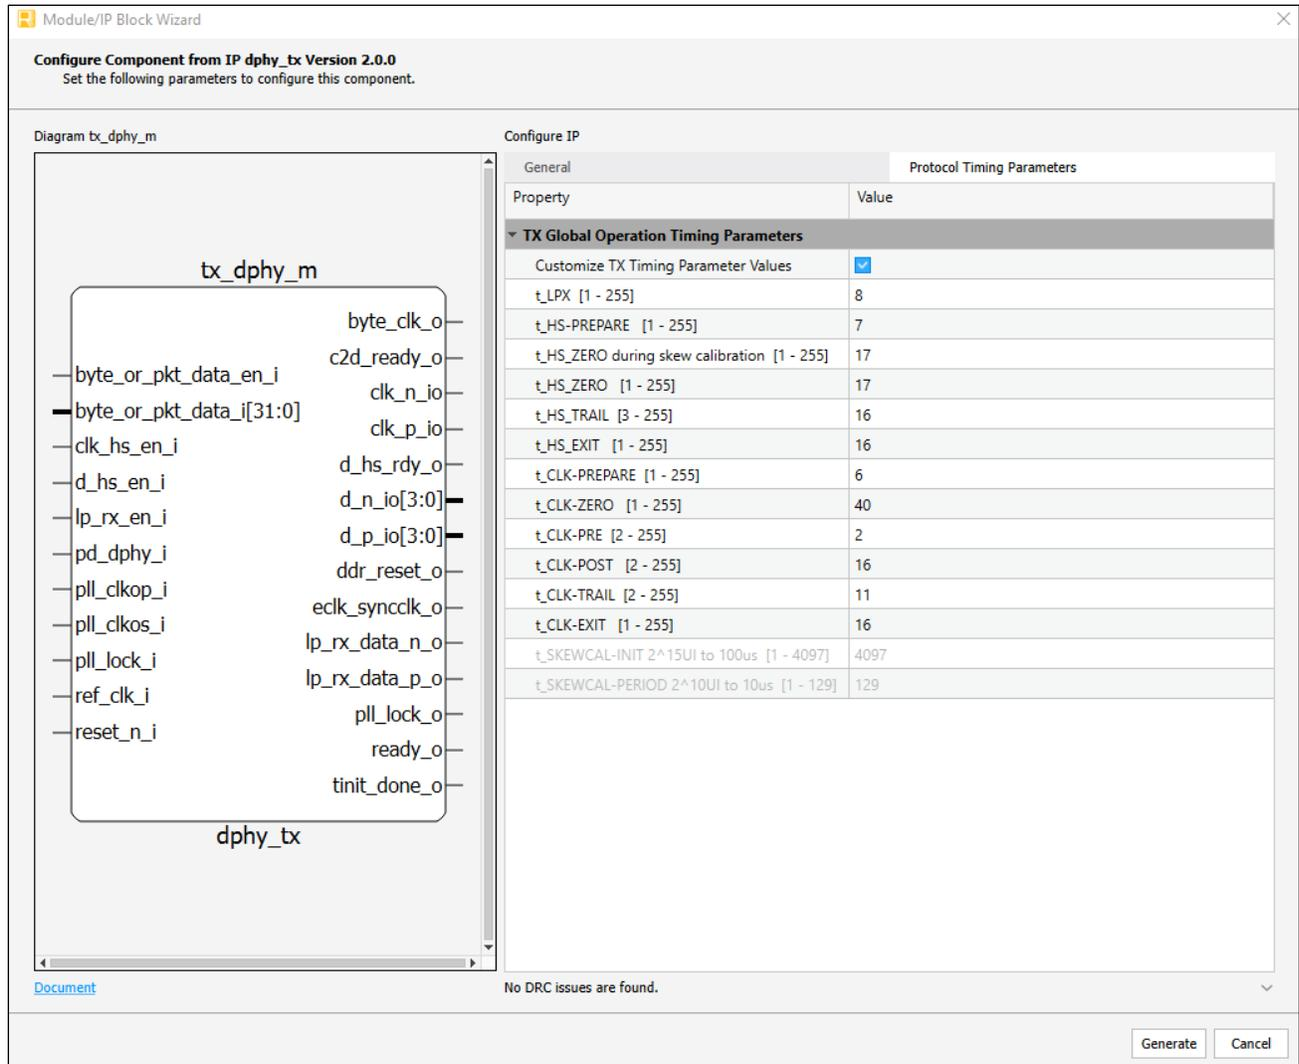

Figure 3.18. tx_dphy IP Protocol Timing Parameters Creation in Lattice Radiant Software
- While generating a Tx D-PHY IP in the Lattice Radiant software, the Protocol timing parameters are set to appropriate values according to the Tx D-PHY General Clock settings as shown in Figure 3.18.